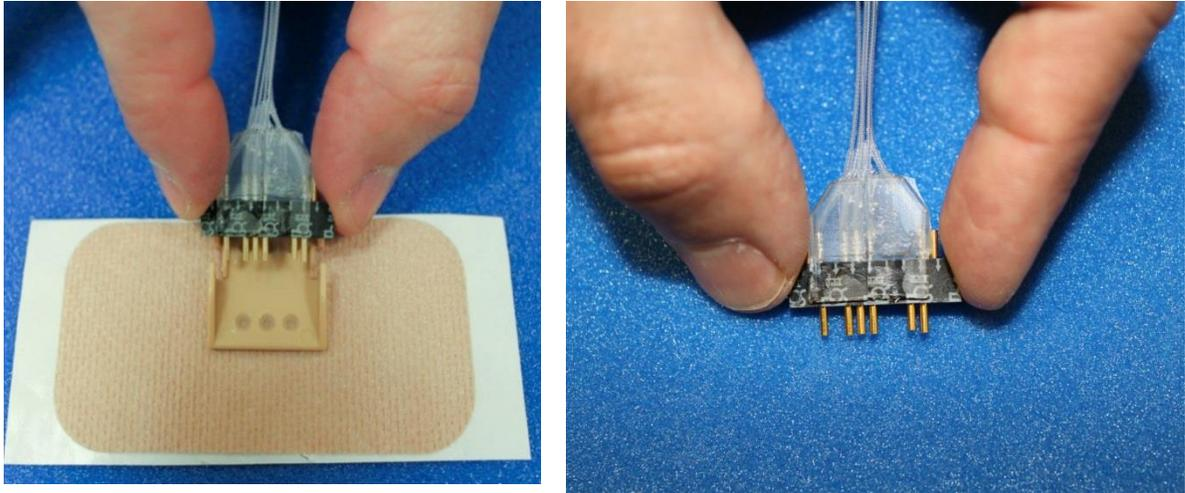

Figure 16
3. Remove the electrode connector from the connector holder. Now remove the connector holder (Figure 16).